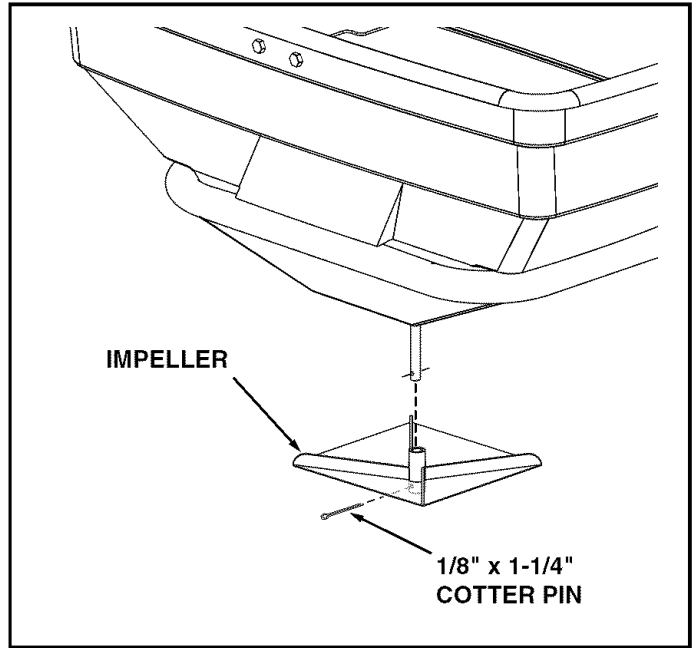

FIGURE 9
17. Slide the impeller up onto the spreader shaft and secure it with a 1/8" x 1-1/4" cotter pin. See figure 9.